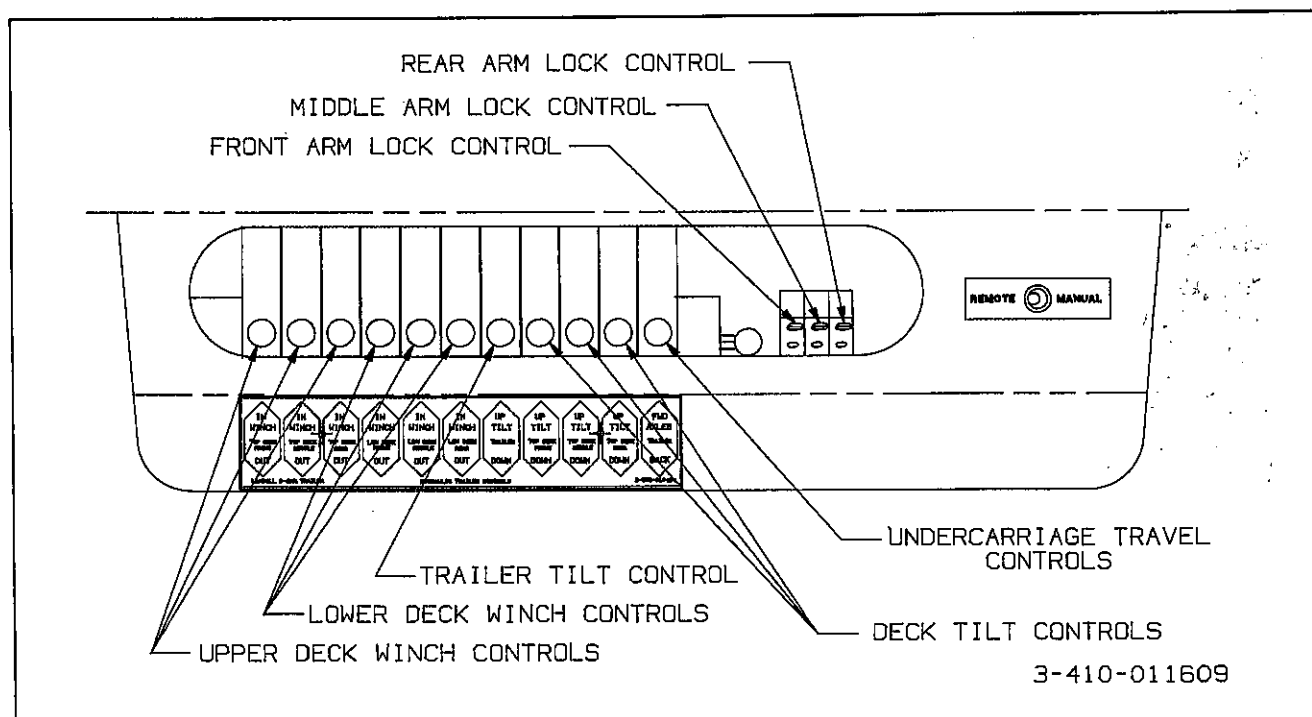
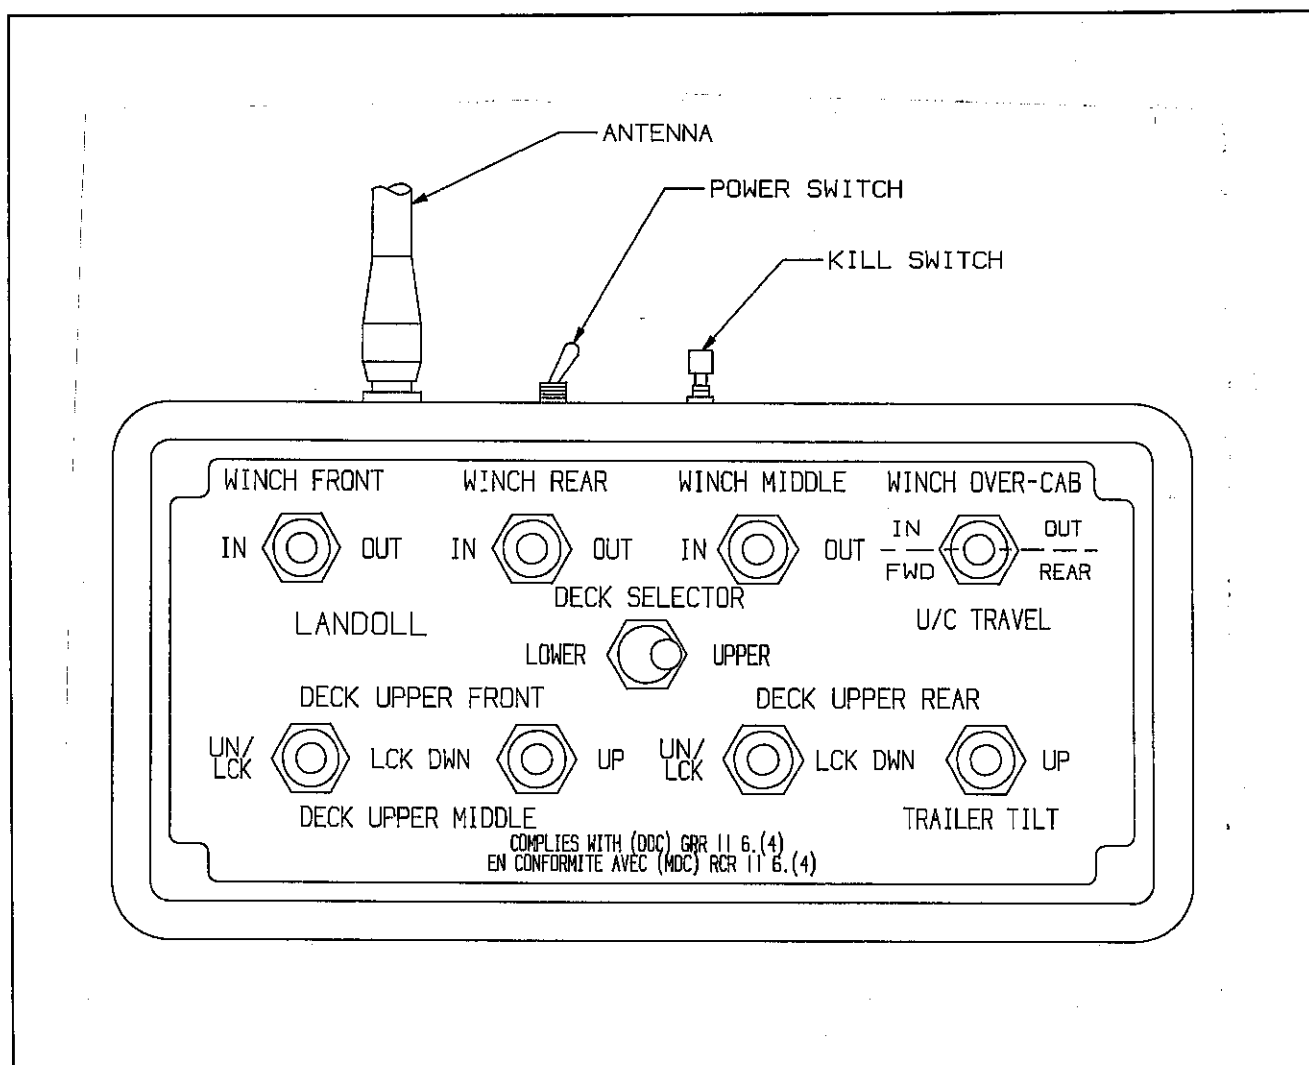

Figure 3-2 Hydraulic Control Levers
Figure 3-4 Remote Control
3-1.2 The king pin plate should be the same height as, or slightly lower than, the latch area of the fifth wheel plate of the tractor. If necessary, connect the tractor hydraulic lines. Use the **TILT TRAILER** lever (see **Figure 3-2**) to raise or lower the kingpin plate sufficiently to allow proper coupling. Drain all air and moisture from the tractor air brake system in accordance with the tractor manufacturer's instructions.
3-4.1 While hydraulic power is operating, raise the front end of the semitrailer with the **TILT TRAILER** lever (see Figure 3-2) until weight is off the landing gear. Raise landing gear. Secure each leg with a park stand retaining pin in fully retracted position before transporting.
3-9.2 The WINCH hydraulic levers (see Figure 3-2) are located on the hydraulic control panel or the remote control (see Figure 3-4) if present. It is a three position control:
3-10.1 The power switch is located on the top of the box and must be turned on for the the remote control to operate. (See Figure 3-4.)
- a. Hold the Lock Control in the unlock position (see Figure 3-2) and joggle the TILT control for that arm until it unlocks.